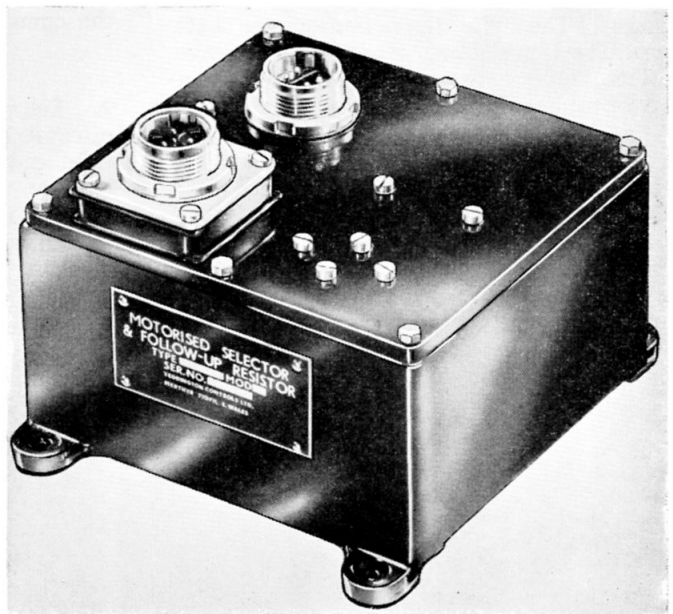

Fig. 1. Motorised selector, Type FLT/A/2
2. The unit (*fig. 1*) incorporates a governed electric motor which drives two ganged potentiometers through reduction gearing. One potentiometer is series coupled to a fixed resistor, giving a resistance range of between 460 and 760 ohms; the other potentiometer is variable between 0 and 26.5 ohms. When the full extent of travel in either direction has been reached, the supply to the motor field is broken by a limit switch.